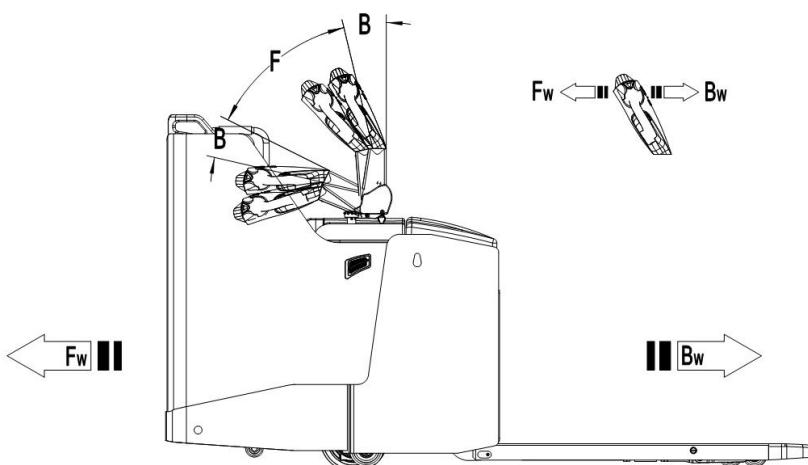

Fig. 14: Operating direction
After starting the truck by turning on the key switch (18), move the tiller to the operating position (fig.14). Turn the accelerator button to the desired direction forward 'Fw.' or backwards Bw.'(fig. 14).